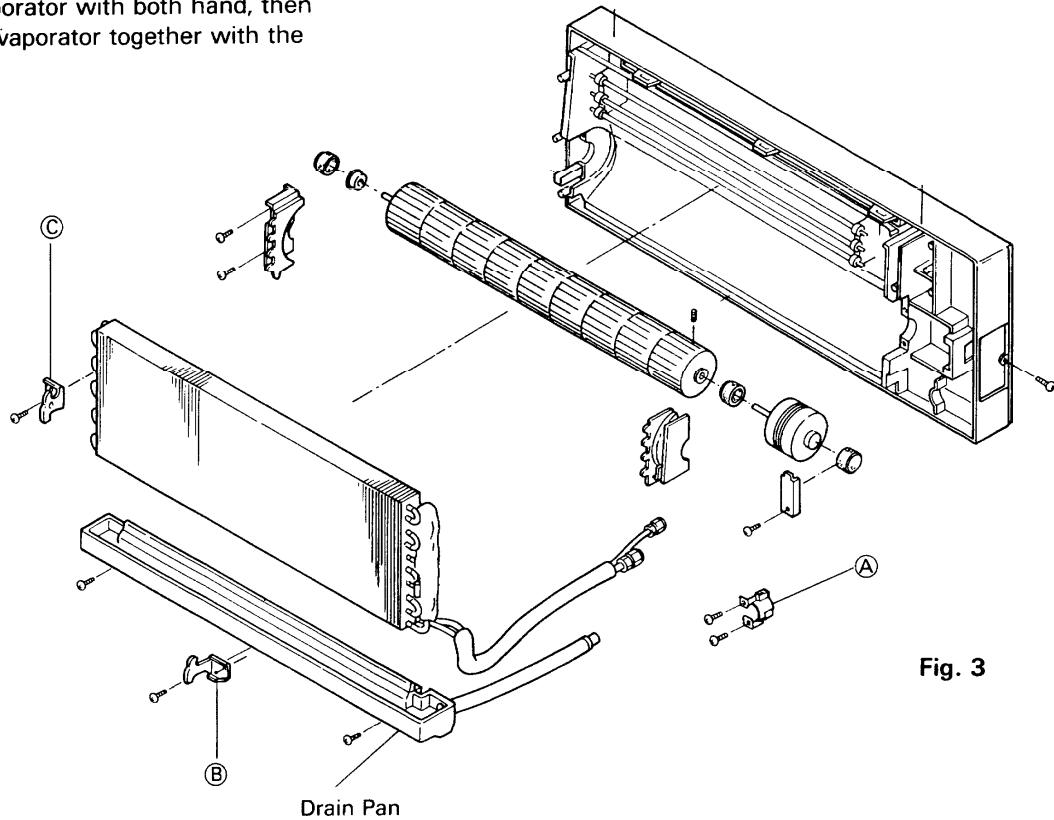

Fig. 3
- 3) The drain pan can be pulled out after removing the screws shown in Fig. 3.